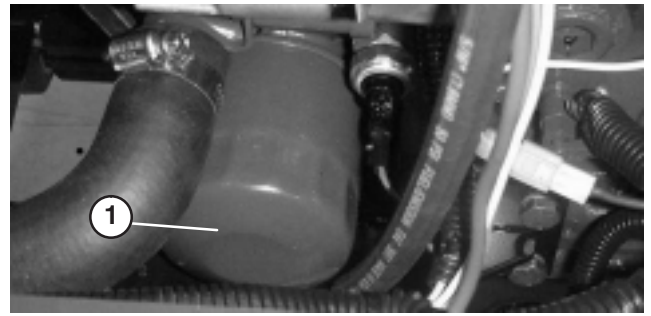

Figure 32
5. Remove and replace oil filter (Fig. 32).